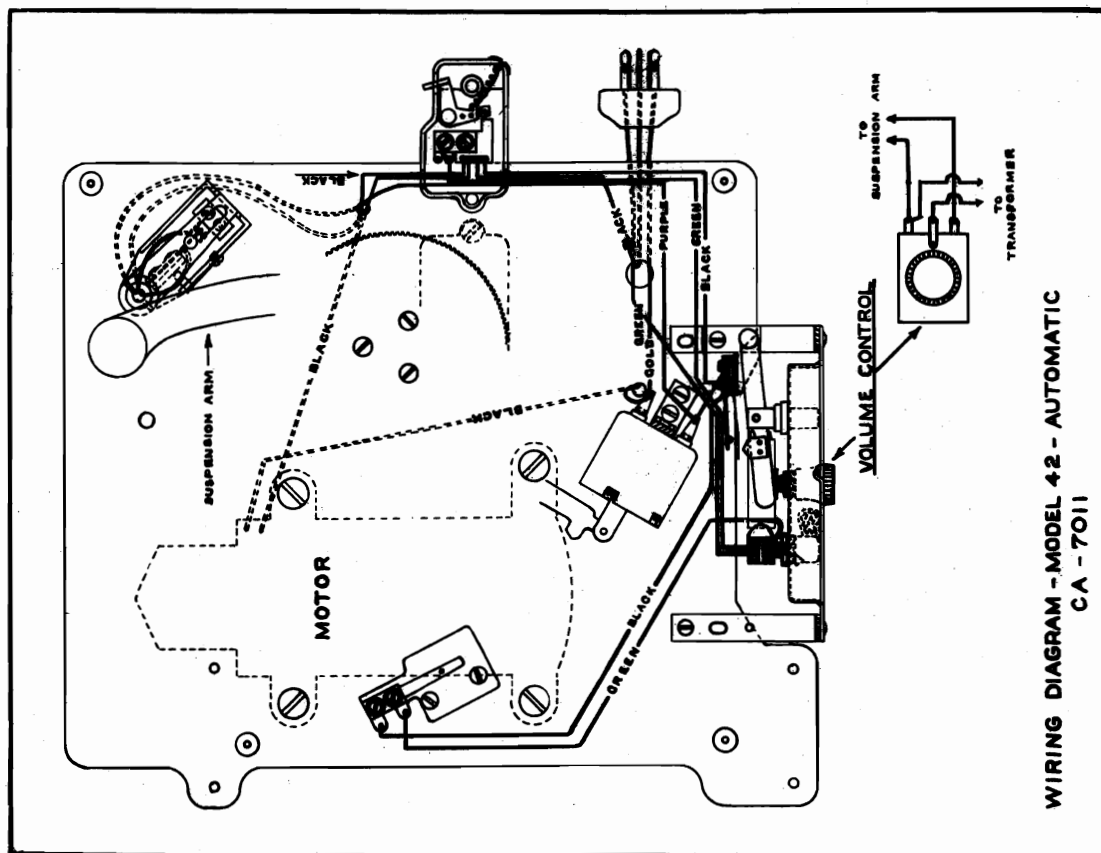

Figure 5
3. At the base of the suspension arm, see Sketch No. 2, is a switch which controls the rejection of a record at the finish of its playing. There are two types of these switches, the earlier type—on models with serial numbers less than 2,000 (this type is shown on the actual wiring diagram Figure 5)—and the later one that is indicated in Sketch 2.